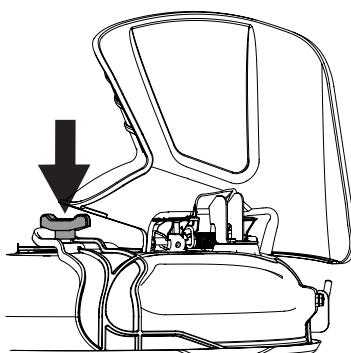

Figure 6
3. Secure the mulch plug in place with the wing knob. See Figure 6.